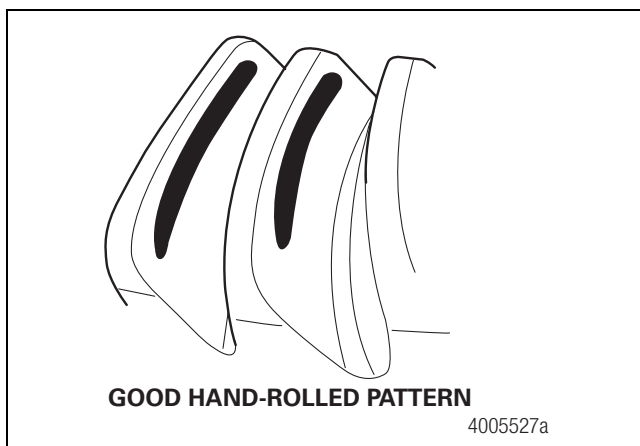
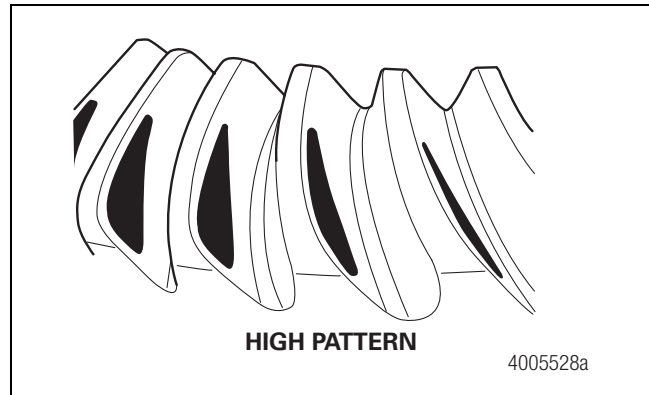
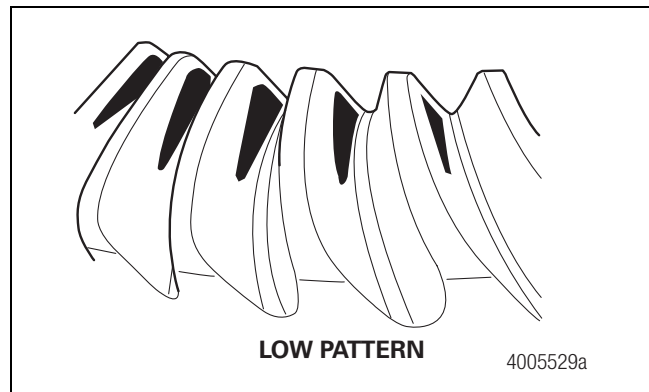
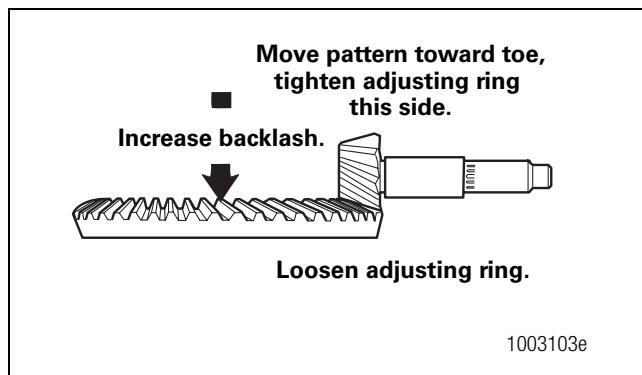

Figure 5.41
Figure 5.42
Figure 5.43
**Figure 5.45**
Always check tooth contact patterns on the drive side of the gear teeth. The drive side is the concave side of the ring gear, unlike a conventional hypoid gear. Figure 5.41.
4. Look at the contact patterns on the ring gear teeth. Compare the patterns to Figure 5.41, Figure 5.42 and Figure 5.43.
The location of good hand-rolled contact patterns for new gear sets is from the central toe, center, to the central heel area of the gear tooth and in the center between the top and bottom of the tooth. Figure 5.41.
- B. To correct a high-contact pattern, increase the thickness of the shim pack under the bearing cage, which moves the drive pinion TOWARD the ring gear. Figure 5.42 and Figure 5.45.